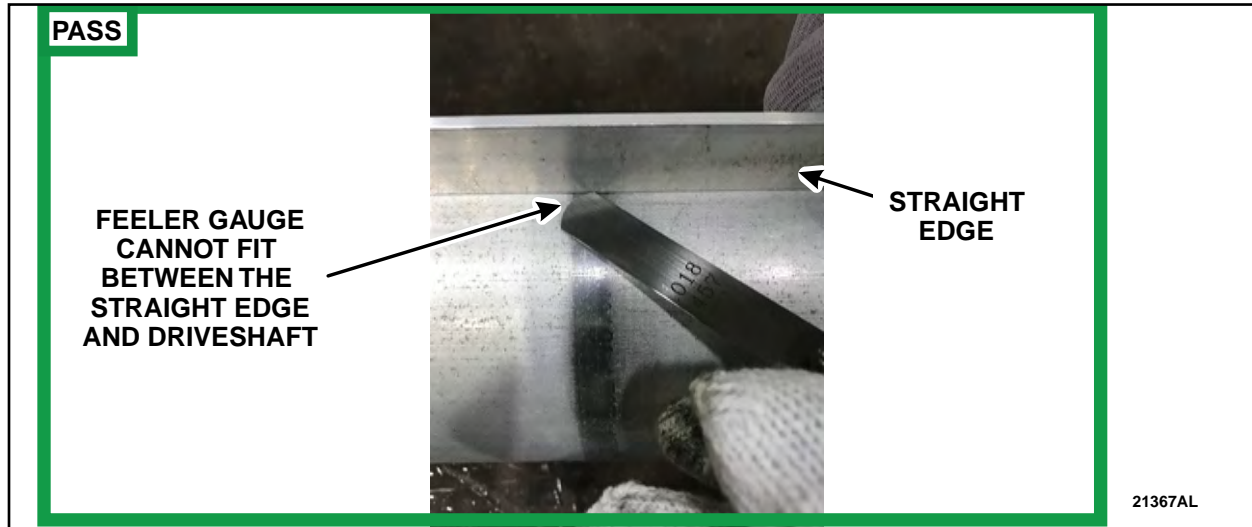

FIGURE 3
7. Place a straight edge along the driveshaft over the wear mark and attempt to fit a 0.018in (0.45mm) feeler gauge between the flat edge and the wear mark. Can the feeler gauge fit between the straight edge and anywhere along the wear mark? See Figures 3 and 4.